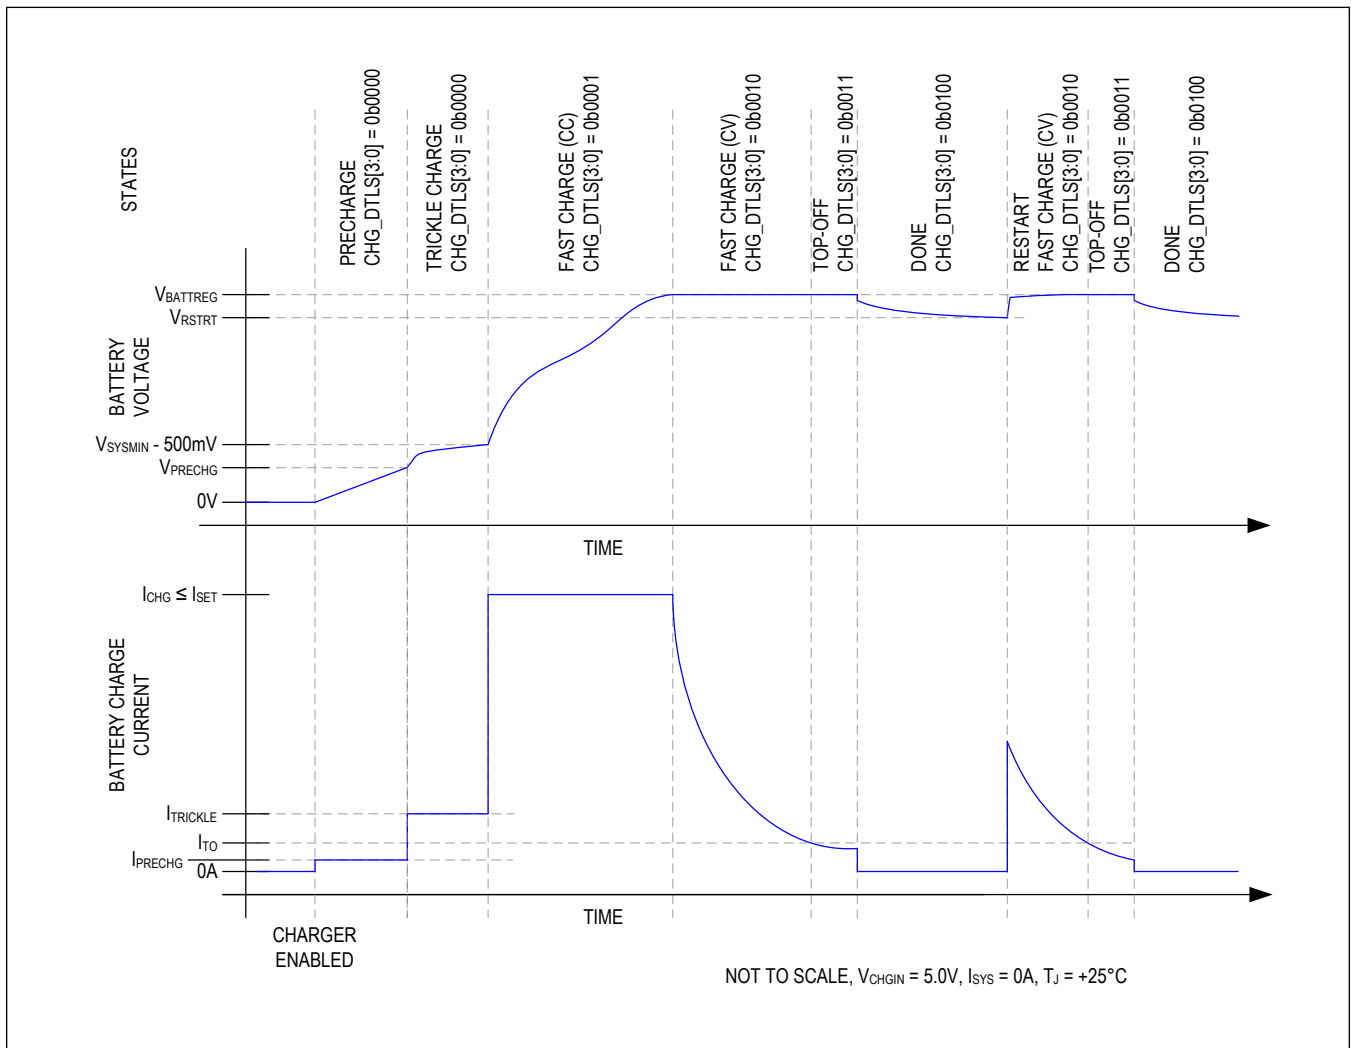
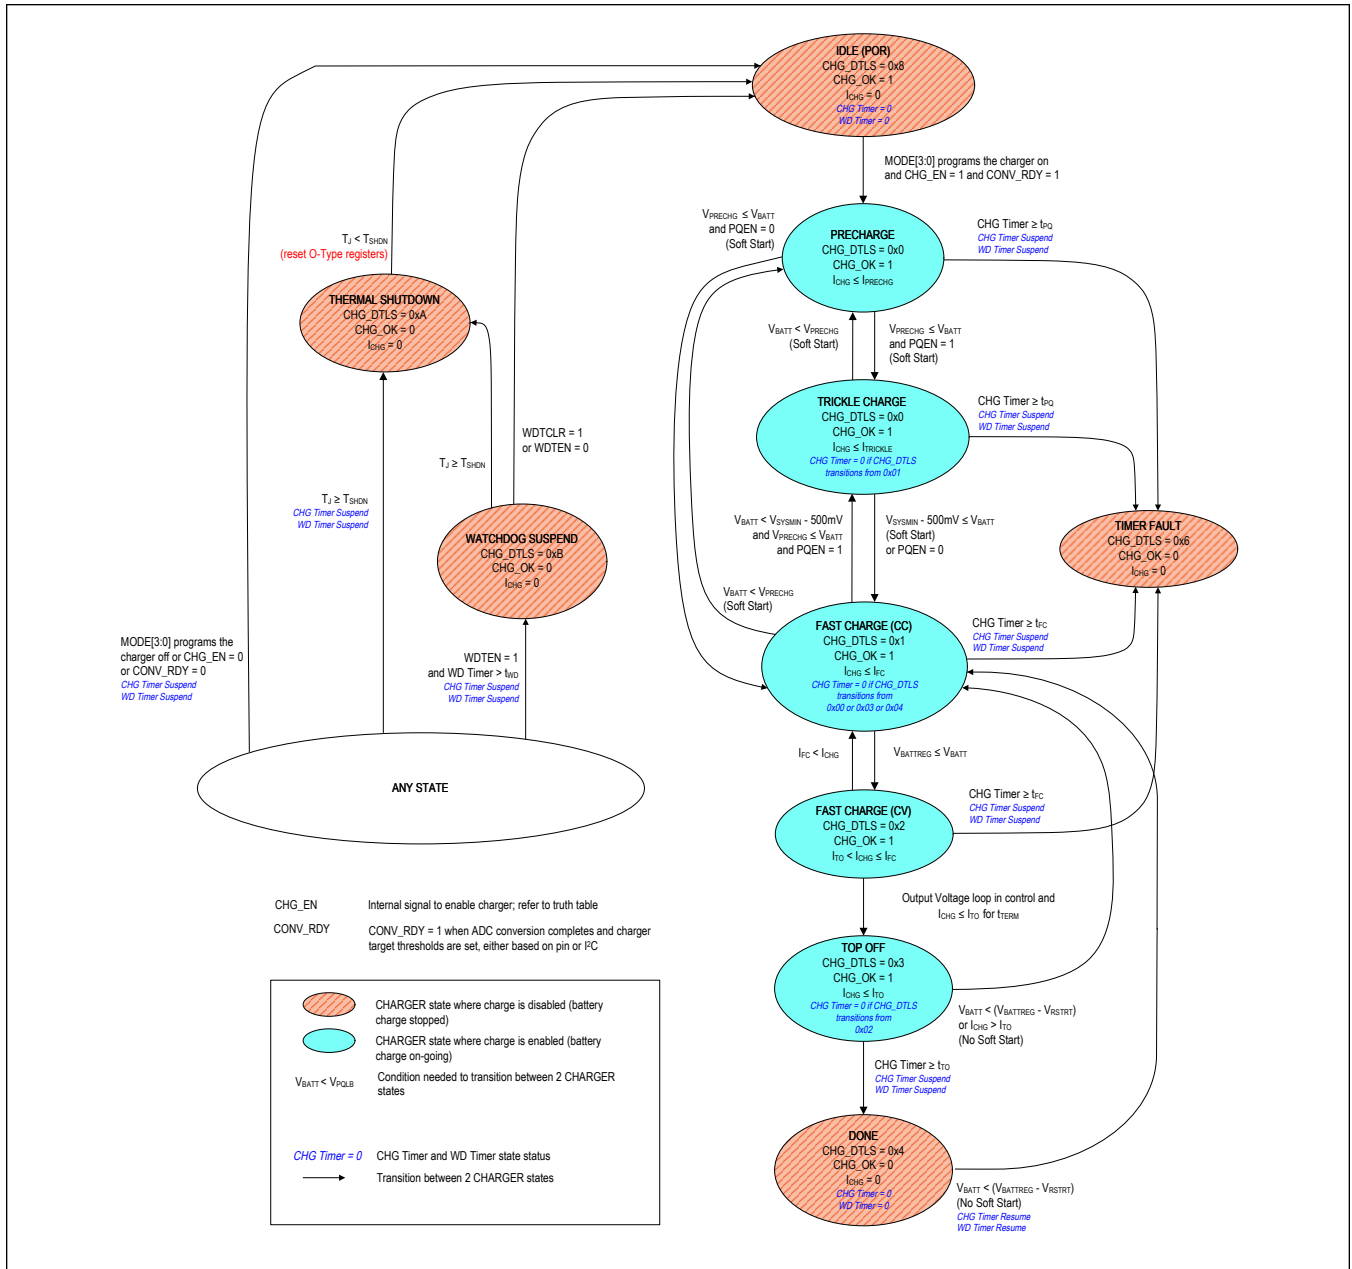

Figure 1. Li Battery Charge Profile
Figure 2. Charger State Diagram
The IC utilizes several charging states to safely and quickly charge batteries as shown in Figure 1 and Figure 2. Figure 1 shows an exaggerated view of a Li+/Li-Poly battery progressing through the following charge states when there is no system load and the die and battery are close to room temperature: Prequalification  $\rightarrow$  Fast-charge  $\rightarrow$  Top-off  $\rightarrow$  Done.
From any state shown in Figure 2, except thermal shutdown, the “no input power or charger disabled” state is entered whenever the charger is programmed to be off or the charger input CHGIN is invalid. After being in this state for  $t_{SCIDG}$ , CHG\_DTLS is set to 0x08 and CHG\_OK is set to 1. A CHG\_I interrupt is generated if CHG\_OK was 0 previously.
As shown in Figure 2, the charger enters the precharge state when the battery voltage is less than  $V_{PRECHG}$ . After being in this state for  $t_{SCIDG}$ , a CHG\_I interrupt is generated if CHG\_OK was 0 previously, CHG\_OK is set to 1, and CHG\_DTLS is set to 0x00. In the precharge state, charge current into the battery is  $I_{PRECHG}$ .
As shown in Figure 2, the charger state machine is in trickle charge state when  $V_{PRECHG} < V_{BATT} < V_{SYSMIN} - 500mV$ . After being in this state for  $t_{SCIDG}$ , a CHG\_I interrupt is generated if CHG\_OK was 0 previously, CHG\_OK is set to 1, and CHG\_DTLS = 0x00.
As shown in Figure 2, the charger enters the fast-charge constant current (CC) state when  $V_{\text{SYSTEMIN}} - 500\text{mV}$  (typ) <  $V_{\text{BATT}} < V_{\text{BATTREG}}$ . After being in the fast-charge CC state for  $t_{\text{SCIDG}}$ , a CHG\_I interrupt is generated if CHG\_OK was 0 previously, CHG\_OK is set to 1, and CHG\_DTLS = 0x01.
As shown in Figure 2, the charger enters the fast-charge constant voltage (CV) state when the battery voltage rises to  $V_{\text{BATTREG}}$  from the fast-charge CC state. After being in the fast-charge CV state for  $t_{\text{SCIDG}}$ , a CHG\_I interrupt is generated if CHG\_OK was 0 previously, CHG\_OK is set to 1, and CHG\_DTLS = 0x02.
In the fast-charge CV state, the battery charger maintains  $V_{\text{BATTREG}}$  across the battery and the charge current is less than or equal to  $I_{\text{FC}}$ . As shown in Figure 1, charger current decreases exponentially in this state as the battery becomes fully charged.
As shown in Figure 2, the top-off state can only be entered from the fast-charge CV state when the charger current decreases below  $I_{TO}$  for  $t_{TERM}$ . After being in the top-off state for  $t_{SCIDG}$ , a CHG\_I interrupt is generated if CHG\_OK was 0 previously, CHG\_OK is set to 1, and CHG\_DTLS = 0x03. In the top-off state the battery charger maintains  $V_{BATTREG}$  across the battery and typically the charge current is less than or equal to  $I_{TO}$ .
As shown in Figure 2, the battery charger enters its done state after the charger has been in the top-off state for  $t_{TO}$ . After being in this state for  $t_{SCIDG}$ , a CHG\_I interrupt is generated only if CHG\_OK was 0 previously, CHG\_OK is set to 0, and CHG\_DTLS = 0x04.
The battery charger provides both a charge timer and a watchdog timer to ensure safe charging. As shown in Figure 2, the charge timer prevents the battery from charging indefinitely. The time that the charger is allowed to remain in its prequalification states is  $t_{PQ}$ . The time that the charger is allowed to remain in the fast-charge CC and CV states is  $t_{FC}$  which is programmable with FCHGTIME. Finally, the time that the charger is in the top-off state is  $t_{TO}$  which is programmable with TO\_TIME. Upon entering the timer fault state, a CHG\_I interrupt is generated without a delay, CHG\_OK is cleared, and CHG\_DTLS = 0x06.
The charger is off in the timer fault state. The charger can exit the timer fault state when the charger is programmed to be off then on again through the MODE bits or when DISQBAT pin is toggled from L-H-L. Alternatively, the charger input can be removed and re-inserted to exit the timer fault state (see the “ANY STATE” bubble in Figure 2).
The battery charger provides both a charge timer and a watchdog timer to ensure safe charging. As shown in Figure 2, the watchdog timer protects the battery from charging indefinitely in the event that the host hangs or otherwise cannot communicate correctly. The watchdog timer is disabled by default with WDTEN = 0. Enable the feature by setting WDTEN = 1. With watchdog timer enabled, the host controller must reset the watchdog timer within the timer period ( $t_{WD}$ ) in order for the charger to operate properly. Reset the watchdog timer by programming WDTCLR = 0x01.
As shown in Figure 2, the state machine enters the thermal shutdown state when the junction temperature ( $T_J$ ) exceeds the device's thermal-shutdown threshold ( $T_{SHDN}$ ). When  $T_J$  is close to  $T_{SHDN}$ , the charger would have already folded back the input current to 0A (see the Thermal Foldback section for more details), so the charger and the DC-DC are effectively off. Upon entering this state, CHG\_I interrupt is generated if CHG\_OK was 1 previously, CHG\_OK is cleared, and CHG\_DTLS = 0x0A.